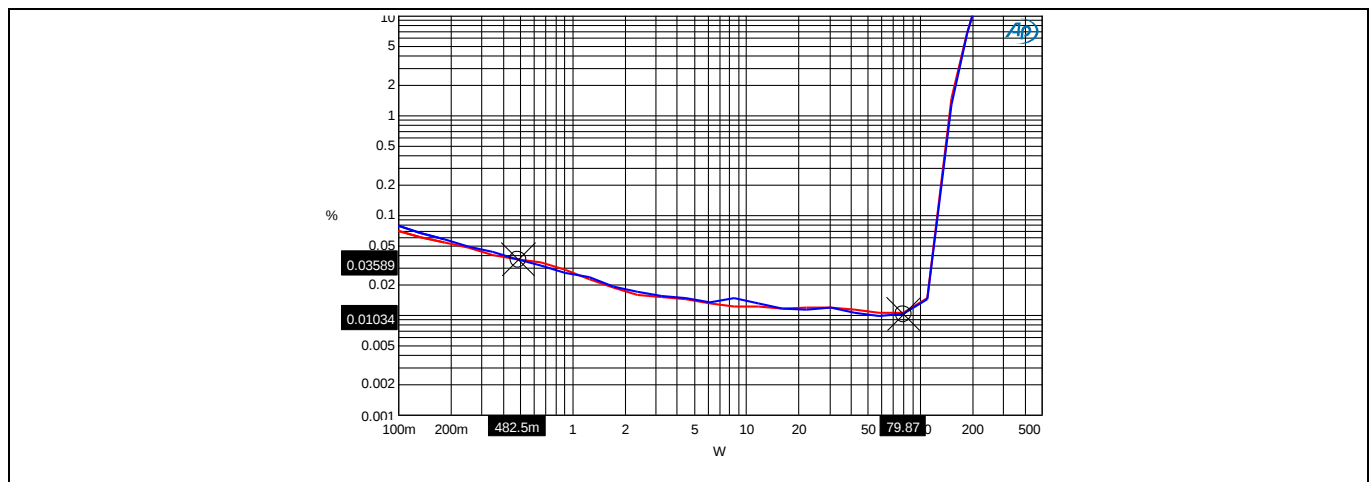

Figure 5 Power vs. THD+N 4Ω load
8. Run the AP test as shown in Figures 5 to 12, below.